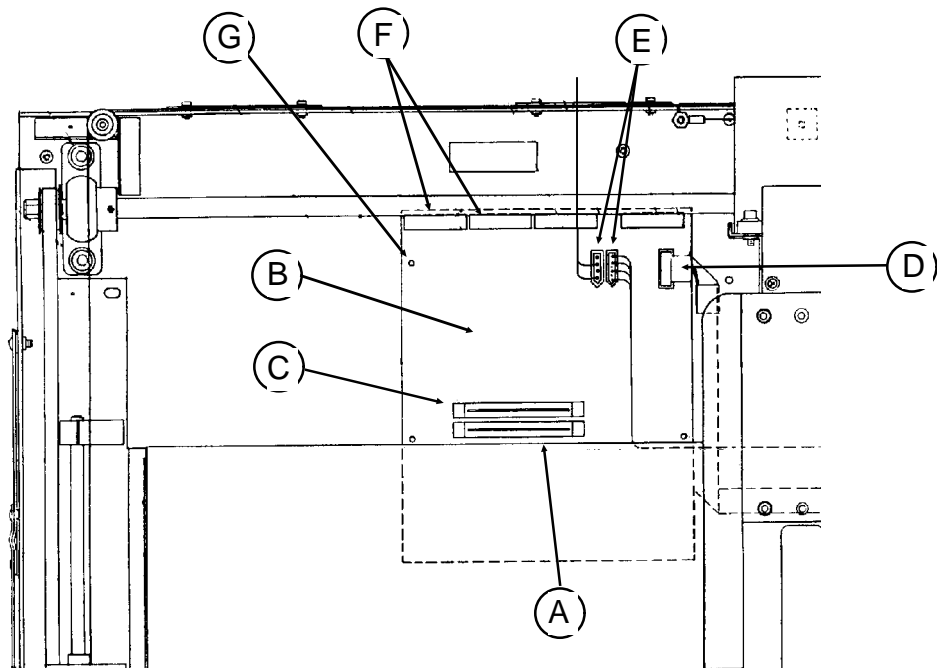

Figure 1
4. Unplug the Program Board (Figure 1-A) from the CPU Board (Figure 1-B) and lay it aside on a clean, static free surface.
5. Unplug the Disk Controller Board (Figure 1-C), if one is present, and lay it aside on a clean, static free surface.
6. Disconnect the blue Ribbon Cable (Figure 1-D) from the CPU Board.
7. Disconnect the four and two wire Power Cables (Figure 1-E) from the CPU Board.
8. Disconnect any Cables present from the Auxiliary Connectors (Figure 1-F) on the rear of the CPU Board.
9. Locate the four white Mounting Tabs (Figure 1-G) holding the CPU Board to the Chassis. Press the center lock of each Tab in to release the Board, and lift up on the edge of the CPU Board.